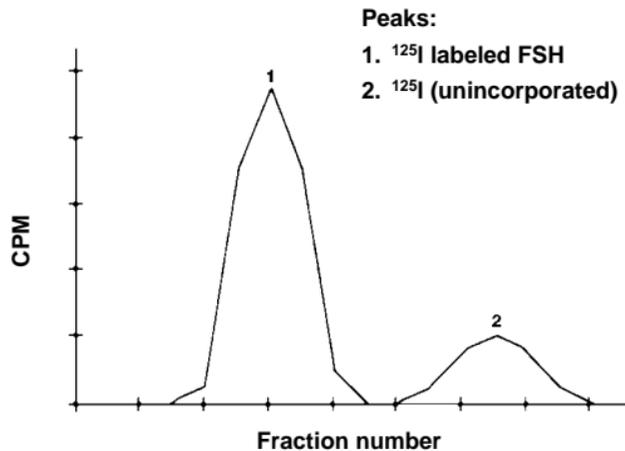

Fig. 5.2. Separation of radiolabeled protein from unincorporated radiolabel.
5. Plot CPM against fraction number to determine which fractions to pool (see Figure 5.2).